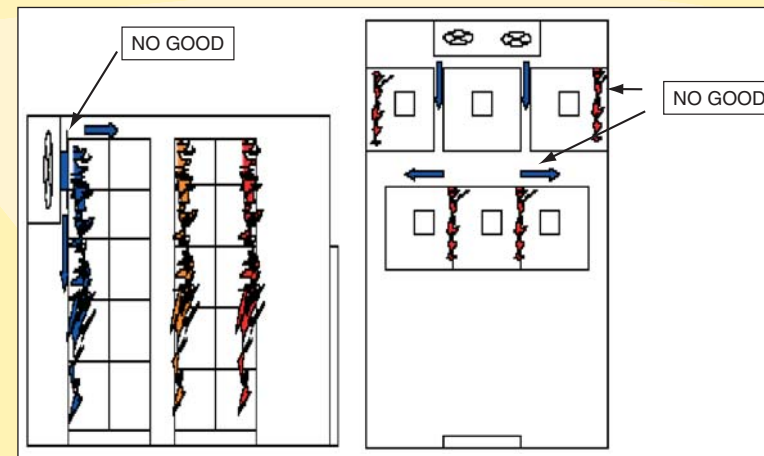

Figure 9. These systems of stacking are not good for storage and ethylene diffusion.
- DO NOT PLACE the boxes attached to the walls and in front of the evaporator (Figures 9)